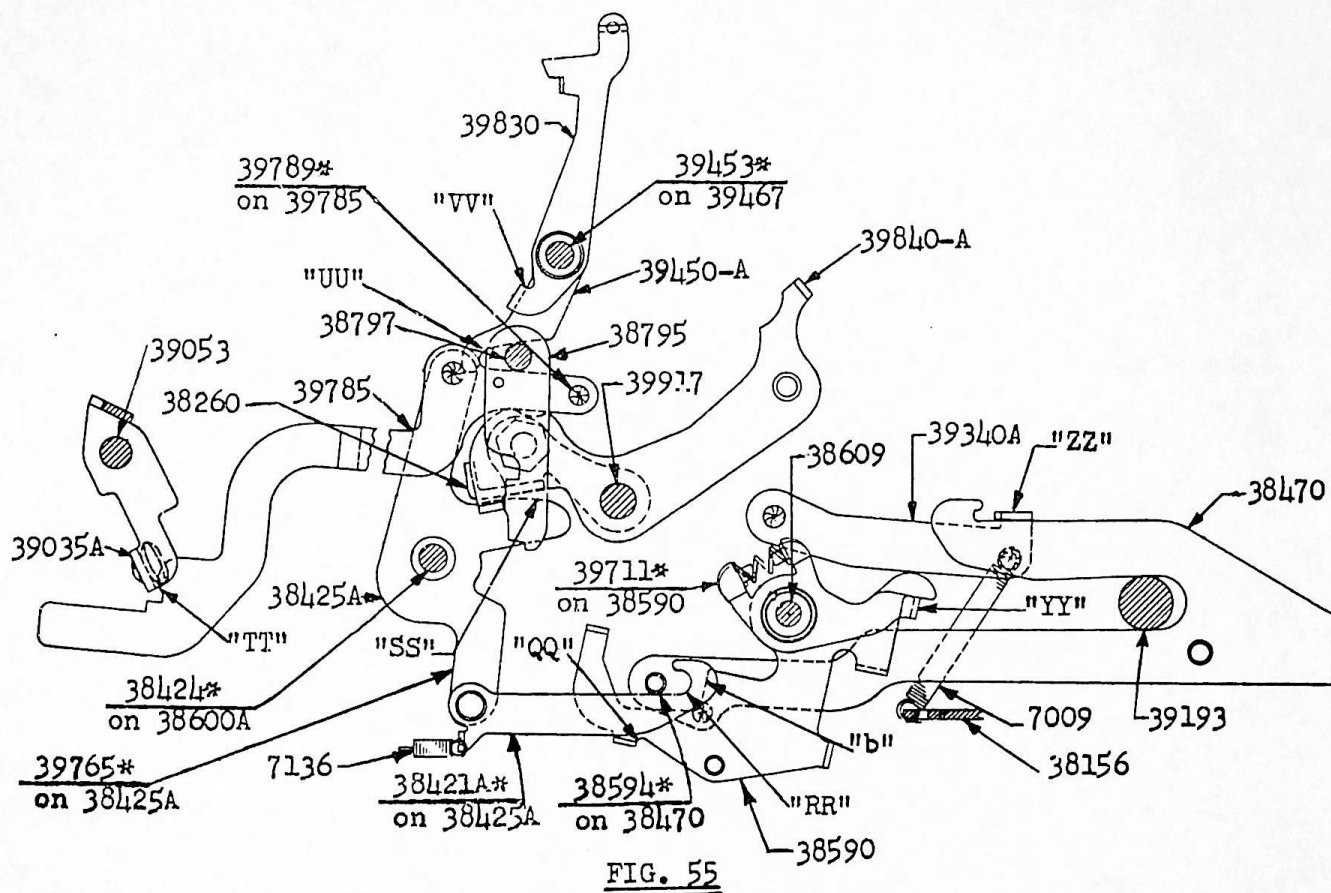

FIG. 55
3. (Fig. 55 & 56). When the Multiplier Terminating Lever-38590 is released to rock clockwise it converts the normal restore cycle into what will be termed a "Last Restore" operation. Ear "QQ" on 38590 rocks the Link-38421A* upwards so that the hook "RR" on 38421A* can be picked up by Stud-38594* on the Restore Link-38470 when 38470 moves rearward as in any other restore cycle. The Multiplier Restore Lever-38425A therefore rocks
- a. (Fig. 55). Its surface "SS" underlies the Shift Terminating Bail-38260 and restores it clockwise so that its Arm-39840A can be latched up by 38795.
- b. (Fig. 55). Connected to the upper end of 38425A is the Keyboard Clear Restore Link-39785 which is moved forward so that its surface "TT"
c. (Fig. 55). Stud 39789* on 39785